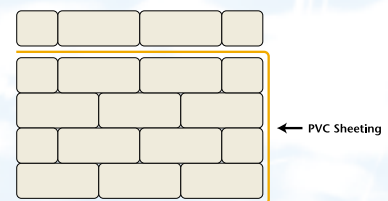

Figure 7: Sandbag wall across doorway
11. To lay sandbags in a doorway, it may be necessary to empty some of the contents out or shape the sandbags to achieve a good fit without overlapping (Figure 7).